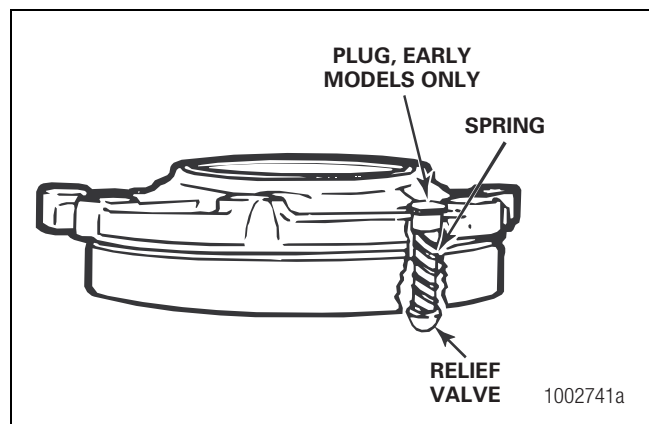

Figure 3.37
10. If necessary, remove the pressure relief valve assembly from the front of the bearing cage. Remove the plug, spring and relief valve from the bore. Figure 3.37.